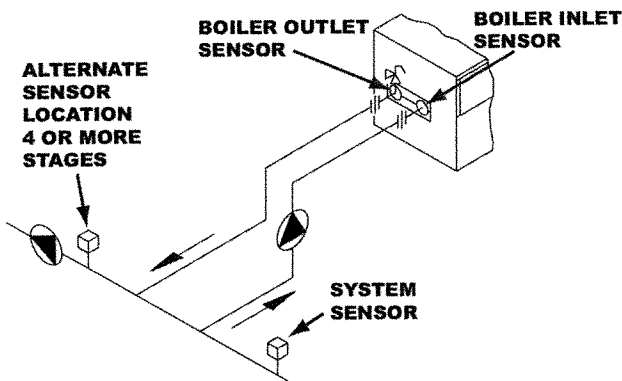

Fig. 10: Primary/Secondary Piping
**Rev. 4** reflects the following: **Changes to:** some of the headings in the **Piping** section on pages 4 through 6, Fig. 10 on page 5, Fig. 21 and Fig. 24 on page 20 and the text in step 3 in the **Quick Start Set-up & Programming Tips** section on page 21; **The addition of:** a wiring note on page 3 and a note in reference to Table D on the bottom of page 16.
In primary/secondary applications, the boiler outlet temperature is typically higher than the system loop temperature. Therefore, the Controller uses an additional sensor (demand) to measure the temperature in the system. The operating sensor in primary/secondary piping applications is the demand sensor. See Fig. 10.